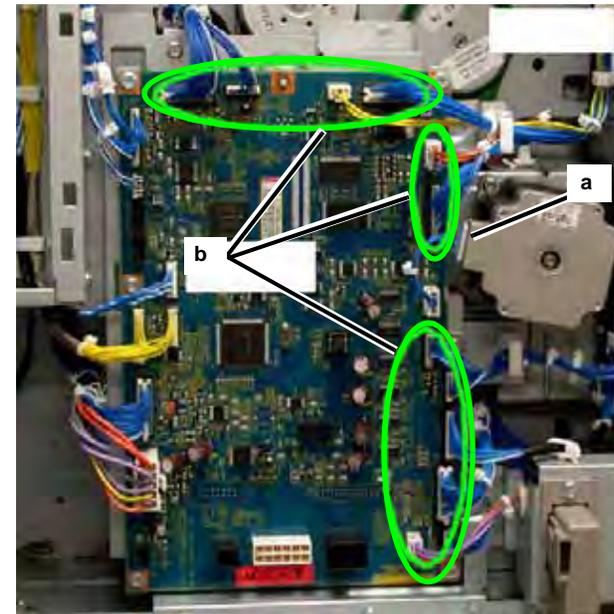

Figure 3 PJ's
4. Disconnect the following connectors (Figure 3).